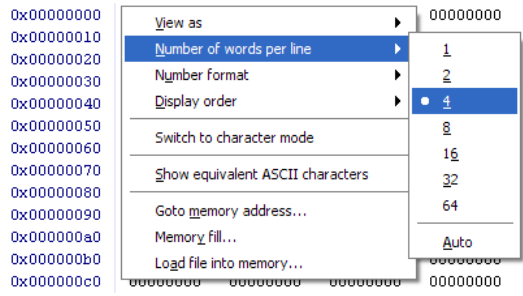

Figure 36. Number of words per line menu in the Memory window.
- Number of words per line: the number of words per line can be configured to make it easier to find memory addresses. This can be configured from the context menu accessible by right-clicking on the **Memory** window, as shown in Figure 36.